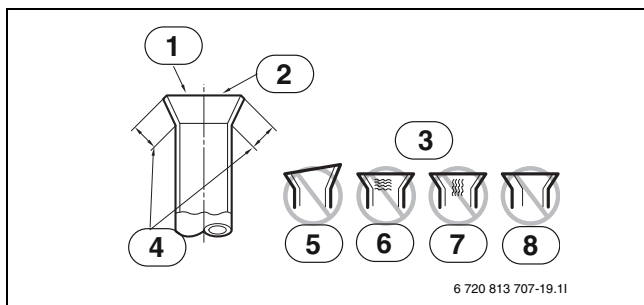

Fig. 20
- Compare the flared work with (→Fig. 20).